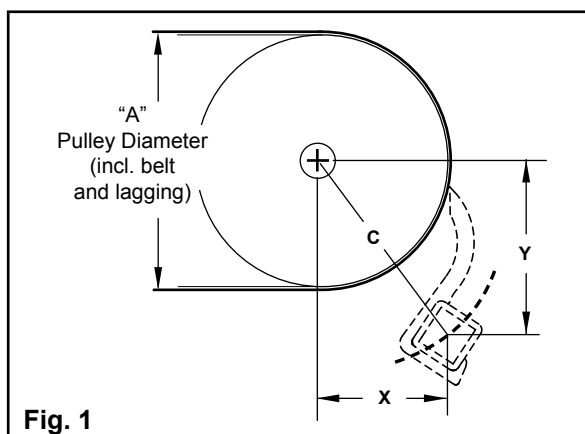

Fig. 1
1. Measure pulley diameter (A), including lagging and belt (Fig. 1).
2. Locate the overall pulley diameter that most closely matches yours on chart A, and use the corresponding X, Y, & C dimensions to locate the position of the center of the cleaner pole (Fig. 1).
3. From center of pulley shaft measure down the distance of Y dimension and place a mark on structure (Fig. 1).
4. From Y location mark, measure away from the pulley the distance of X dimension and mark this position. This will be the location of center of pole (Fig 1). Measure the C dimension to verify that it is correct.